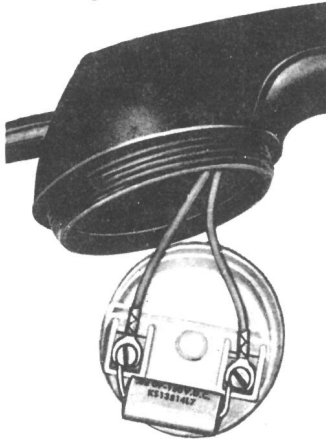

FIGURE 15. KS-13814, List 7 Capacitor, Handset Transmitter Cup
- 7.06 The KS-13814, List 7 *capacitor* may be placed inside the G type handset to bypass the transmitter unit as shown in Figure 15. Place the capacitor against the transmitter cup, keeping the capacitor leads as short as possible.